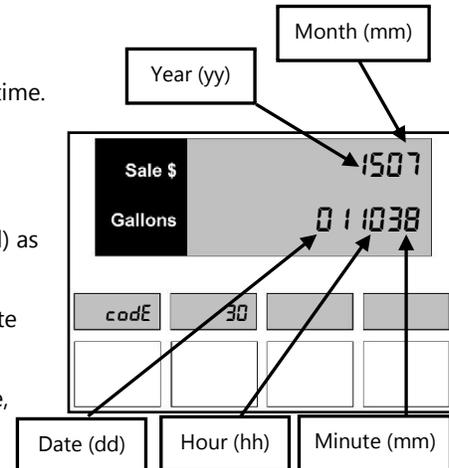

Figure 30.1 – Real Time Clock
- The current date in *Figure 30.1* is showing yy/mm/dd.
- The current time in *Figure 30.1* is showing hh:mm, which is military time.
2. Enter the last two digits of the current year, month, and date (yy/mm/dd) as shown in *Figure 30.1*.
3. Enter two digits for the current hour and two digits for the current minute in military time (hh:mm) as shown in *Figure 30.1*.